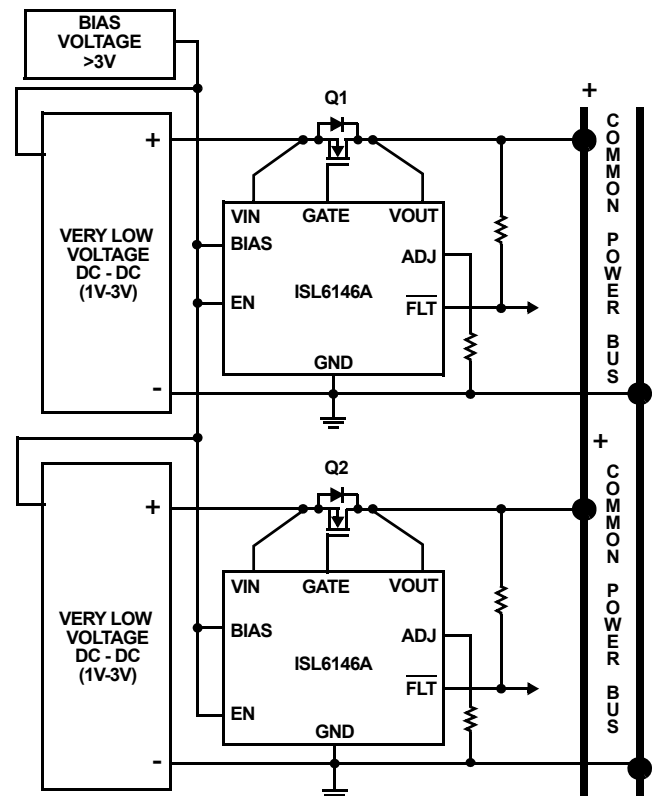

FIGURE 43. LOW VOLTAGE APPLICATION DIAGRAM
The ISL6146A application shown in Figure 43 is the configuration for ORing very low voltages of 1V to 3V. Additionally, this application shows the utilization of the ADJ input with a single resistor tied to GND. This provides the user a programmable level of $V_{OUT} > V_{IN}$ before the High Speed (HS) Comparator is activated and the GATE output is pulled down to allow for normal voltage fluctuations in the system.